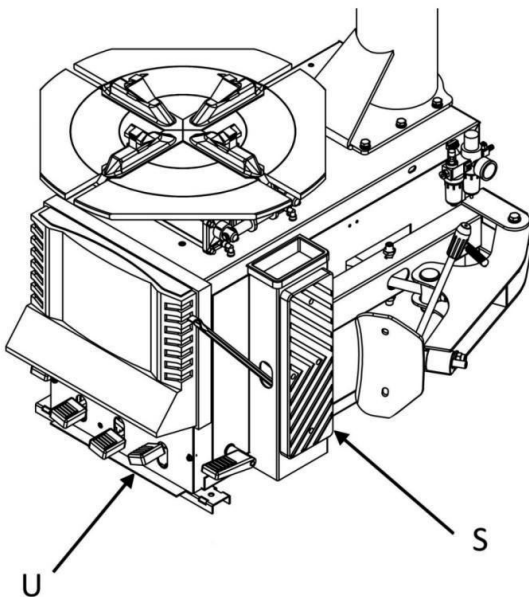
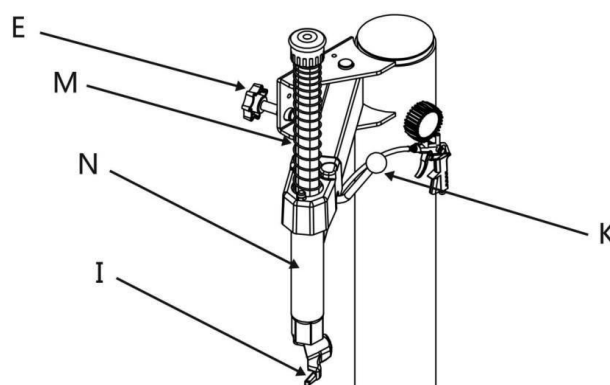

Figure9
Figure 14
- ✧ As shown in Figure 9,10, the tire need to be leaned on the rubber mat which is on the right side of the semi automatic tire changer (S), (Note: it must be very careful to carry out the pressing operation. When the pressure plate is operated, the pressure relief arm will swing rapidly and powerfully, and any object in the range of the pressure arm is dangerous.
- ✧ As shown in Figure 9, step on the pedal (U) and start the tire pressing device. When the tire pressure shovel completed operation or the wheel edge goes away from the rim, release the pedal. Gently rotating the tire, repeat the same operation to the other place of the tire.
- ✧ After pressing tire, the rim edge should be coated with special lubricating fluid, make the position of the pedal (VI) be in parallel with (V2), the tire should be fixed on the clamp (G) , make the clamp lock the rim tightly by steeping on the pedal (V2) (Note: make sure that the rim is locked tightly by the clamps).
- ✧ Lower operating arm (M), until the disassembly head (I) is supported on the rim of the rim, lock it with the lock handle (K). In this process, as shown in figure 8-b, figure 8, the operating arm (M) is locked in a fixed position in the vertical direction, and the head (I) is moved to the top of the rim of the 2-3.5mm. Once the operating arm is locked in the vertical direction, As shown in Figure 14, you must use the left hand wheel (E) which is on the horizontal swing arm (N) to remove the rim of the head (I) (about 2-3.5mm).